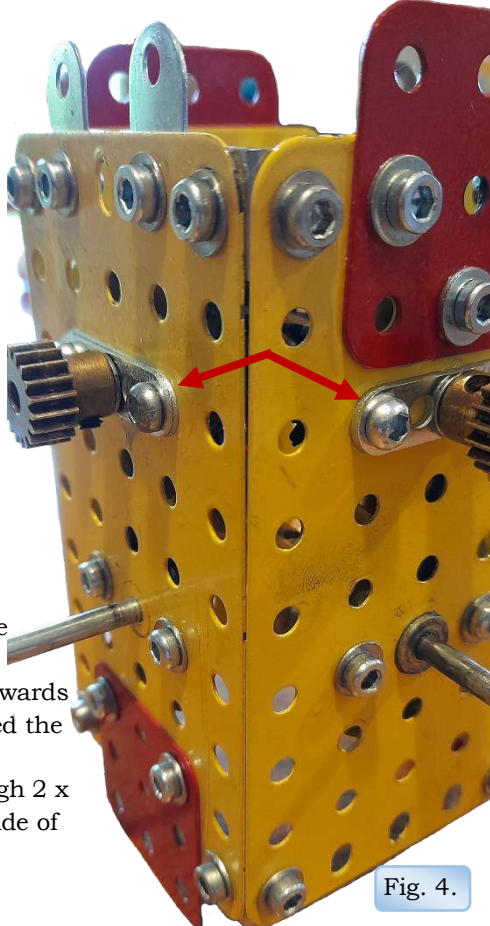

Fig. 4.
3. Journaled the Rods through 2 x QI Narrow Strips on the outside of each face. Fig. 4.